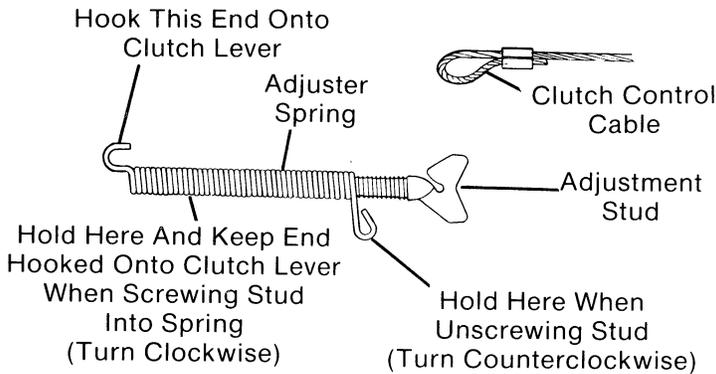

FIG. 15
- B. If tines do not move tighten cable by turning nylon adjustment stud one full turn clockwise into spring (Fig. 15) and again pull starter rope with tines off the ground and clutch lever up (released). Repeat tightening procedure until tines move, then go to step 2.